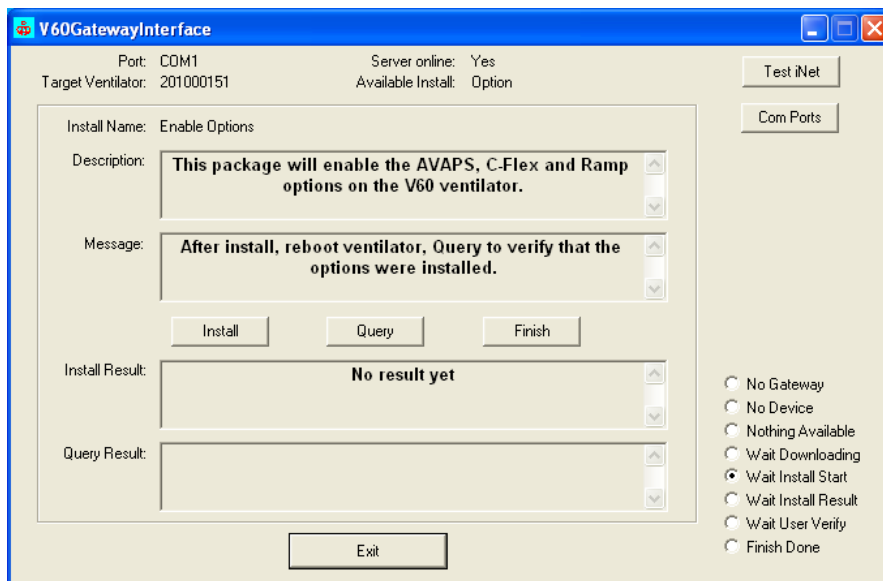

Figure A-10: Option Package Screen
4. Within 30 seconds, a GatewayInterface screen appears on the PC monitor if an option package is pending (Figure A-10).